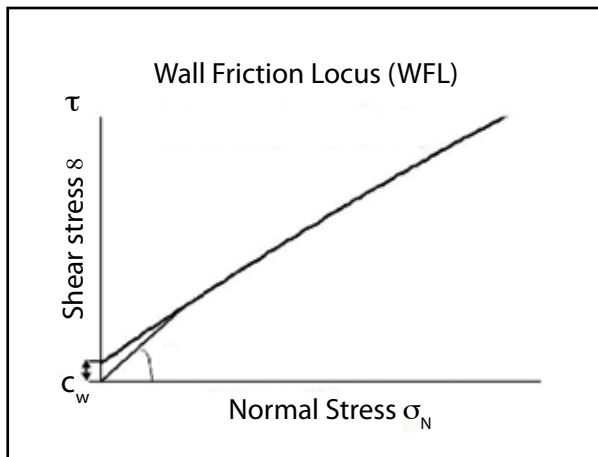
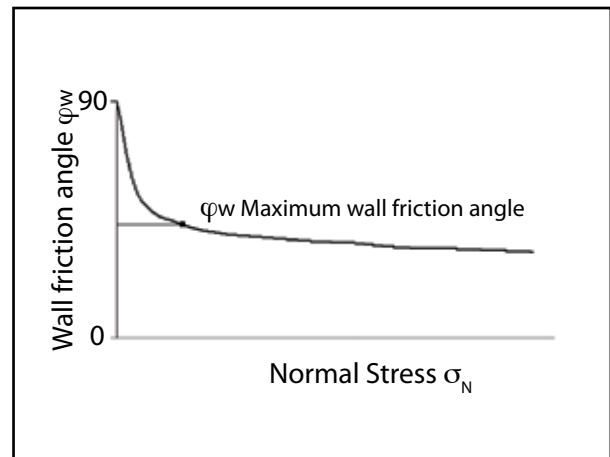

Figure A-8a: Wall friction locus
Figure A-8b: Wall friction function
While the results of the wall friction test can be displayed graphically in the form of a wall friction locus as shown in Figure A-8a (representing the limiting shear stress the powder can support at a wall), or the form of a wall friction angle function as shown in Figure A-8b (representing how the wall friction angle changes with reducing stress), one of the following four flow indices derived from the maximum wall friction locus are usually adequate. These wall friction properties are:
- φ_w The maximum wall friction angle to determine the minimum chute angle for gravity flow (see Figure A-8b).
- c_w The wall cohesion shear stress in kPa that can be supported at the wall under zero normal stress (see Figure A-8a). This determines the ‘stickiness’, i.e. whether powder is likely to stick to wall surface under close to zero stress. i.e. will powder build up on the walls of the chutes around discharge/transfer points.